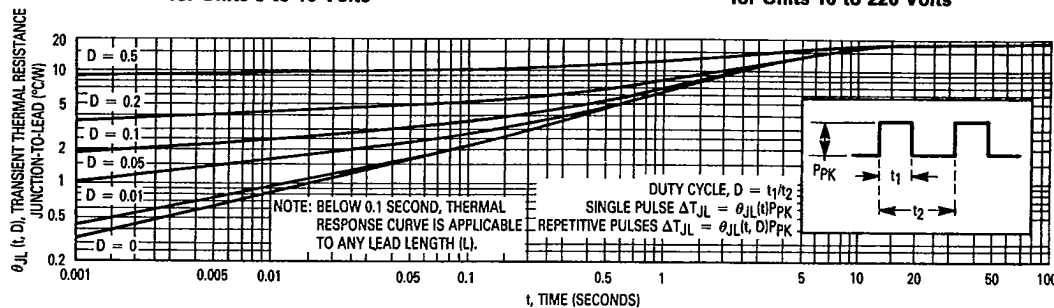
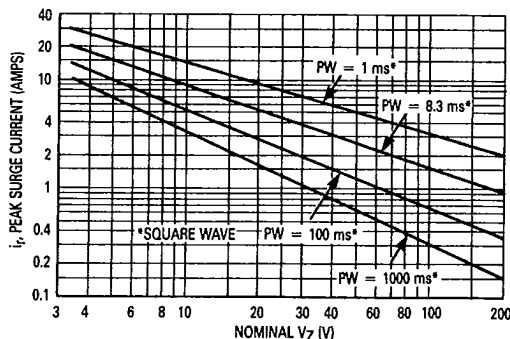

Figure 4. Typical Thermal Response
Figure 6. Maximum Non-Repetitive Surge Current versus Nominal Zener Voltage
- (1) TOLERANCE AND VOLTAGE DESIGNATION — The JEDEC type numbers shown indicate a tolerance of $\pm 10\%$ with guaranteed limits on only V_Z , I_R , I_F , and V_F as shown in the electrical characteristics table. Units with guaranteed limits on all seven parameters are indicated by suffix "A" for $\pm 10\%$ tolerance and suffix "B" for $\pm 5\%$, C for $\pm 2\%$ and D for $\pm 1\%$.
- (2) ZENER VOLTAGE (V_Z) AND IMPEDANCE (Z_{ZT} & Z_{ZK}) — Test conditions for Zener voltage and impedance are as follows: I_Z is applied 40 ± 10 ms prior to reading. Mounting contacts are located $3/8"$ to $1/2"$ from the inside edge of mounting clips to the body of the diode. ($T_A = 25^\circ\text{C}$ $\pm 2^\circ\text{C}$).
- (3) SURGE CURRENT (I_{RS}) — Surge current is specified as the maximum allowable peak, non-recurrent square-wave current with a pulse width, PW, of 8.3 ms. The data given in Figure 6 may be used to find the maximum surge current for a square wave of any pulse width between 1 ms and 1000 ms by plotting the
Data of Figure 4 should not be used to compute surge capability. Surge limitations are given in Figure 6. They are lower than would be expected by considering only junction temperature, as current crowding effects cause
temperatures to be extremely high in small spots resulting in device degradation should the limits of Figure 6 be exceeded.